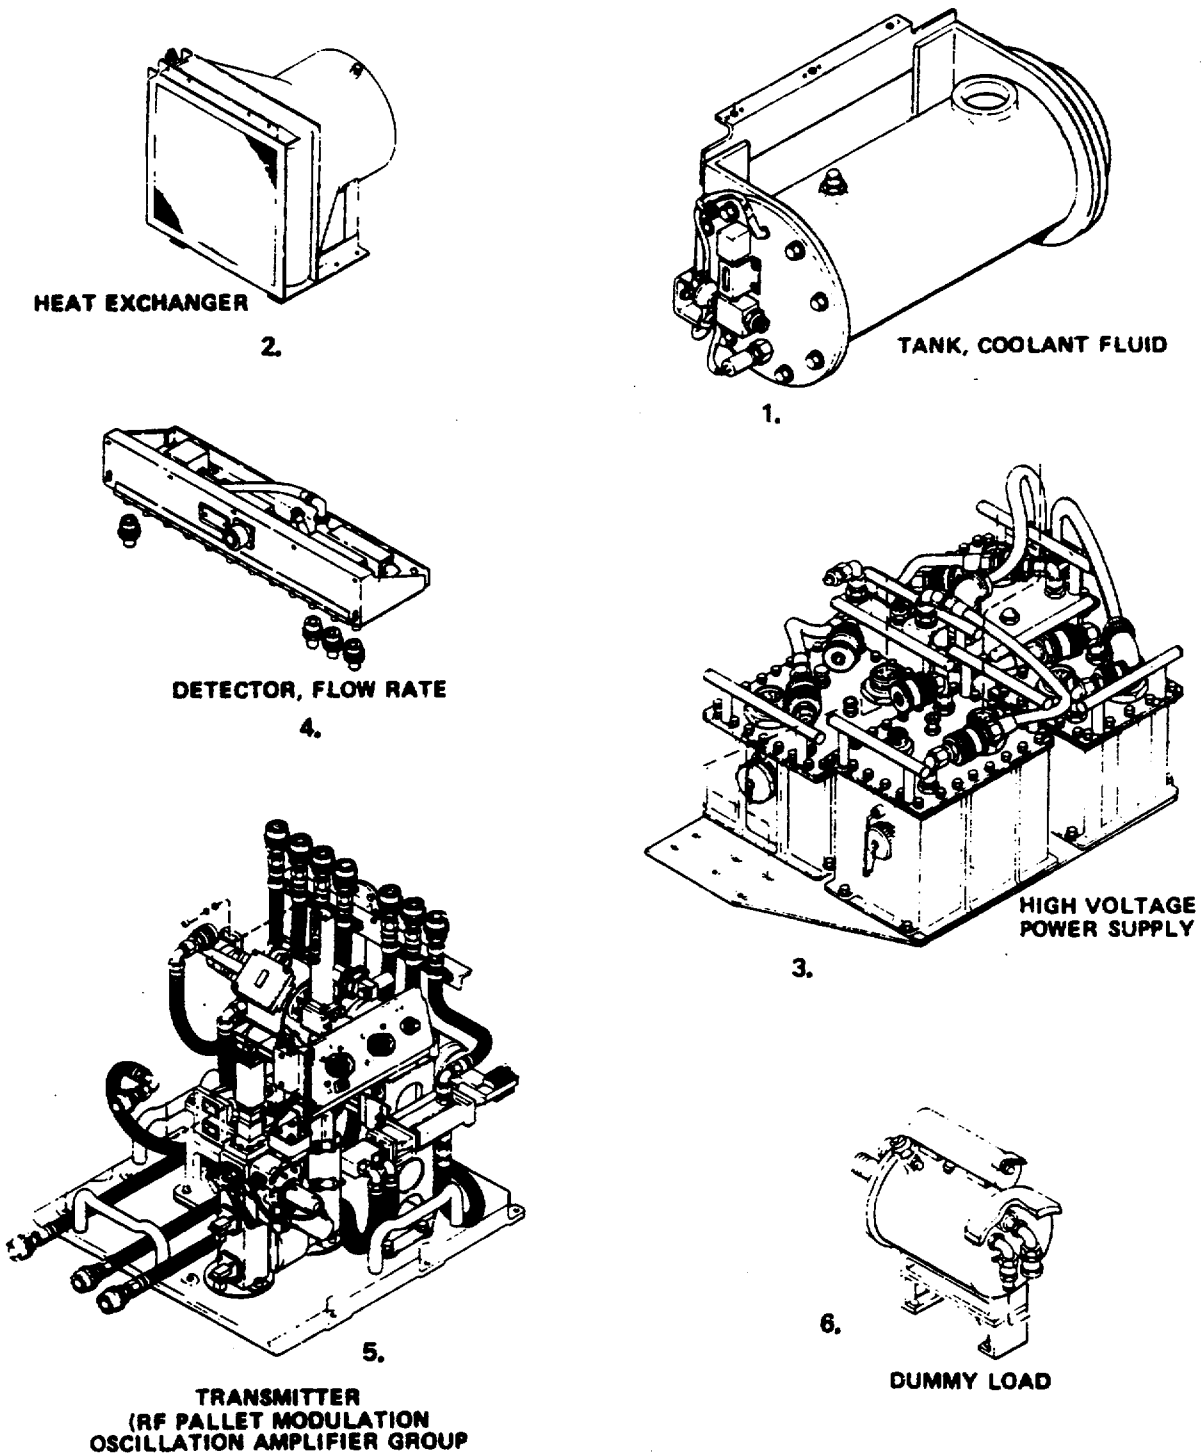

Figure 3. Coolant system components illustrated (coolant tank, heat exchanger, flow rate, detector, H.V.P.S., XMTR, dummy load).
- f. Remove the glycol heater coolant Fluid Tank (1, figure 3).
- g. Remove the heat exchanger and dummy load (2 and 6, figure 3) may be purged in place.
- h. Remove the Modulator Oscillator Amplifier Group (R.F. Pallet), (3, figure 4), Flow Rate Detector (4, figure 3) High Voltage Power Supplies A1 and A4 (3, figure 3).
g. Inspect the filter. Replace it if necessary (figure 3).